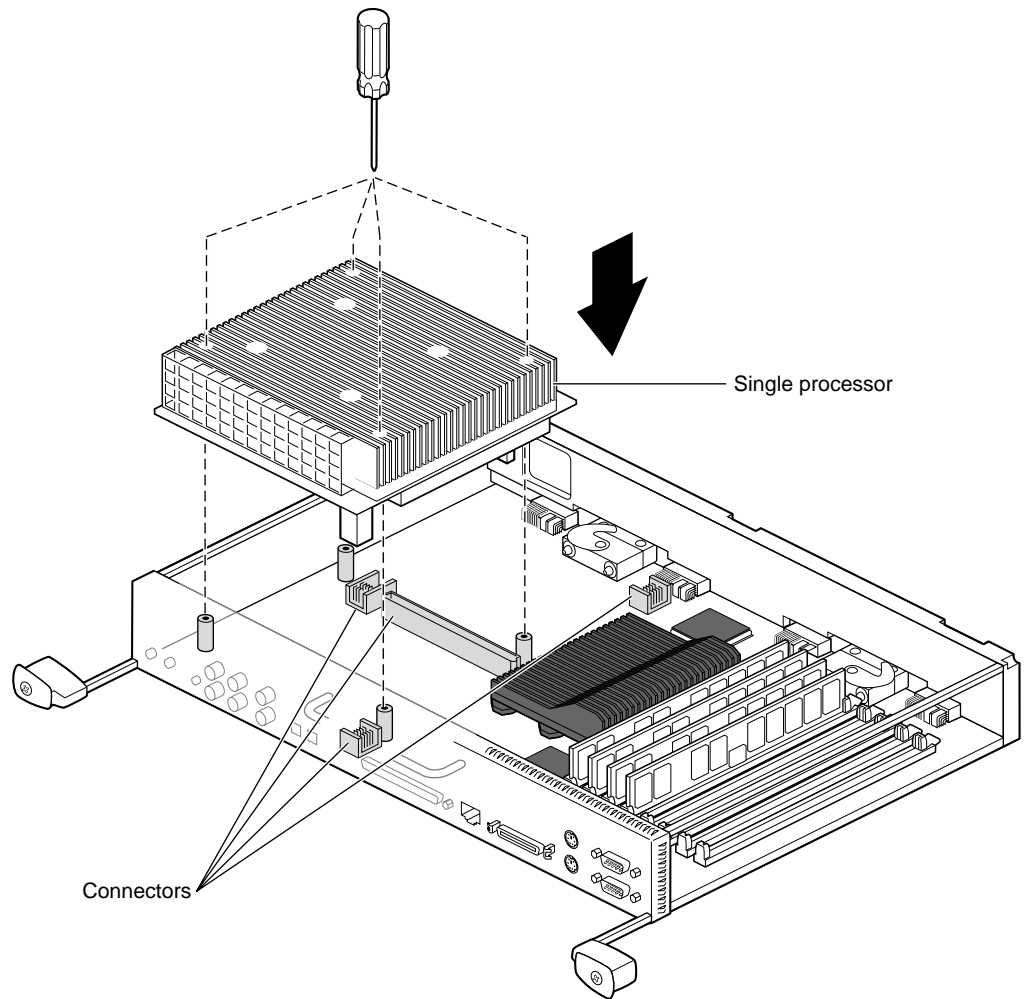
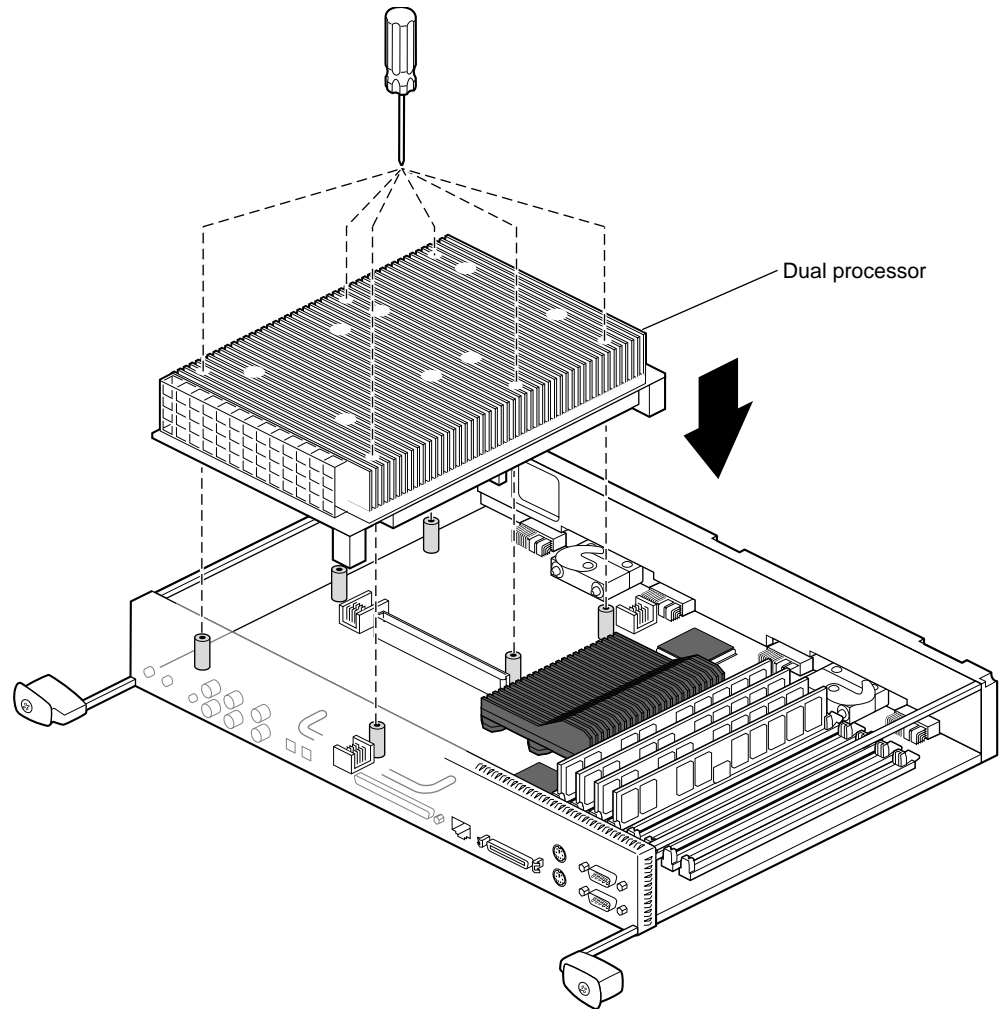

Figure 2-15 Installing a Single Processor
Figure 2-16 Installing the Dual Processor
2. If you are installing a single processor, place it on the side of the system module closest to the panel of connectors. See Figure 2-15.
3. Lower the CPU onto the standoffs and connectors as shown in Figure 2-15. (See Figure 2-16 for an illustration of the dual processor installation.)